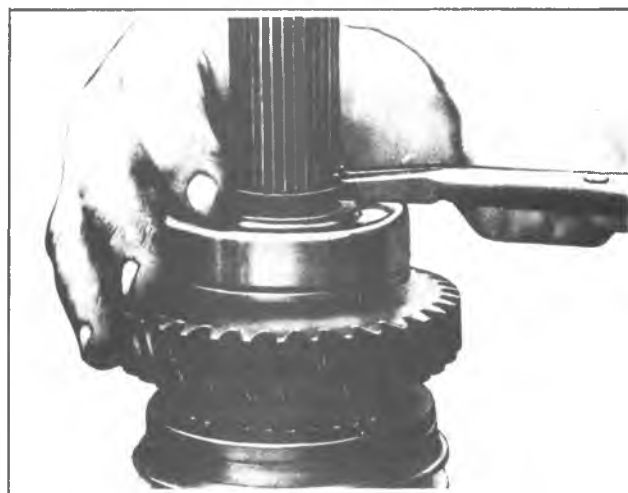

Fig. 7B-11K—Removing Rear Bearing Snap Ring
4. Coat I.D. of bushing and seal with transmission lubricant. Install new seal using Tool J-21359 (Fig. 7B-15K).